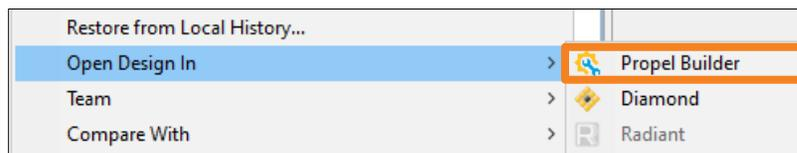

Figure 3.11. Project Explorer Popup Menu
- Right-click the SoC project from **Project Explorer**. Choose **Open Design In** > **Propel Builder** from the popup menu (Figure 3.11).